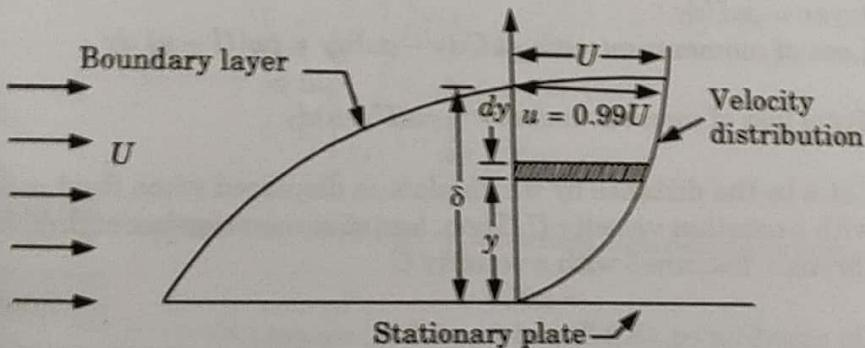

Fig. 3.2.1. Displacement thickness.
- Let fluid of density ρ flow past a stationary plate with velocity U as shown in Fig. 3.2.1.